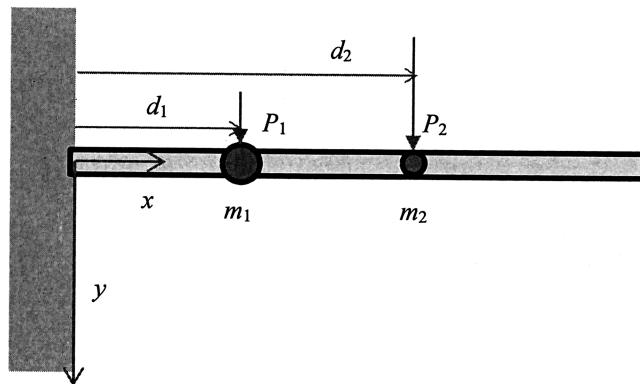

Figure 4: Two masses  $m_1$  and  $m_2$  at the locations  $d_1$  and  $d_2$  from the fixed end of a cantilever.
4. Two masses  $m_1 = 2$  kg and  $m_2 = 1$  kg are attached at the distances of  $d_1 = 1$  m and  $d_2 = 2$  m respectively from the fixed end of a cantilever, as shown in Figure 4. The cantilever is assumed to be of negligible mass and linearly elastic with constant flexural rigidity  $EI$ . Neglecting the deflection profile, it is also assumed to be horizontal when the masses are in static equilibrium on it.
Figure 4 appears on page 6.